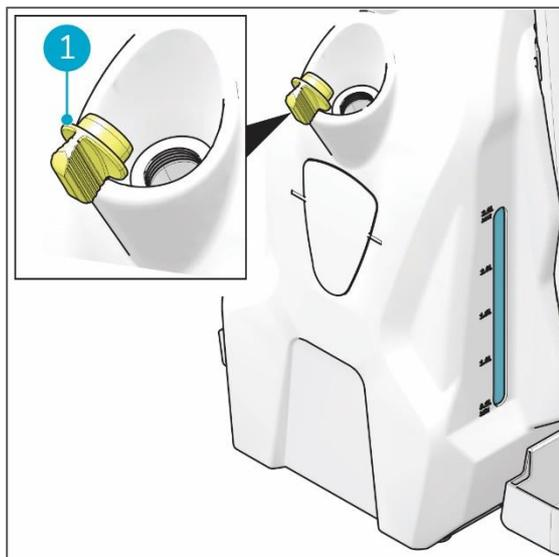

Figure 35
4. Remove the yellow stopper from the fluid tank (Figure 35, pos 1).
7. Replace the yellow stopper (Figure 35, pos 1).